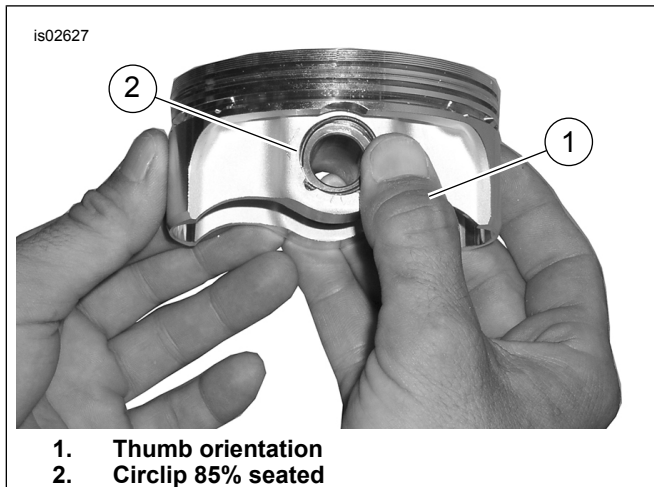

Figure 4. Install Circlip
- See Figure 4. Position your thumb (1) as shown, and press firmly until approximately 85% of the circlip (2) is seated in the groove.